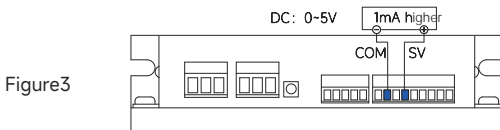

Figure3
- External analog signal DC0-5V: When it is necessary to switch to the external SV input control speed mode, the built-in potentiometer RV must be in the off state - Figure 3.